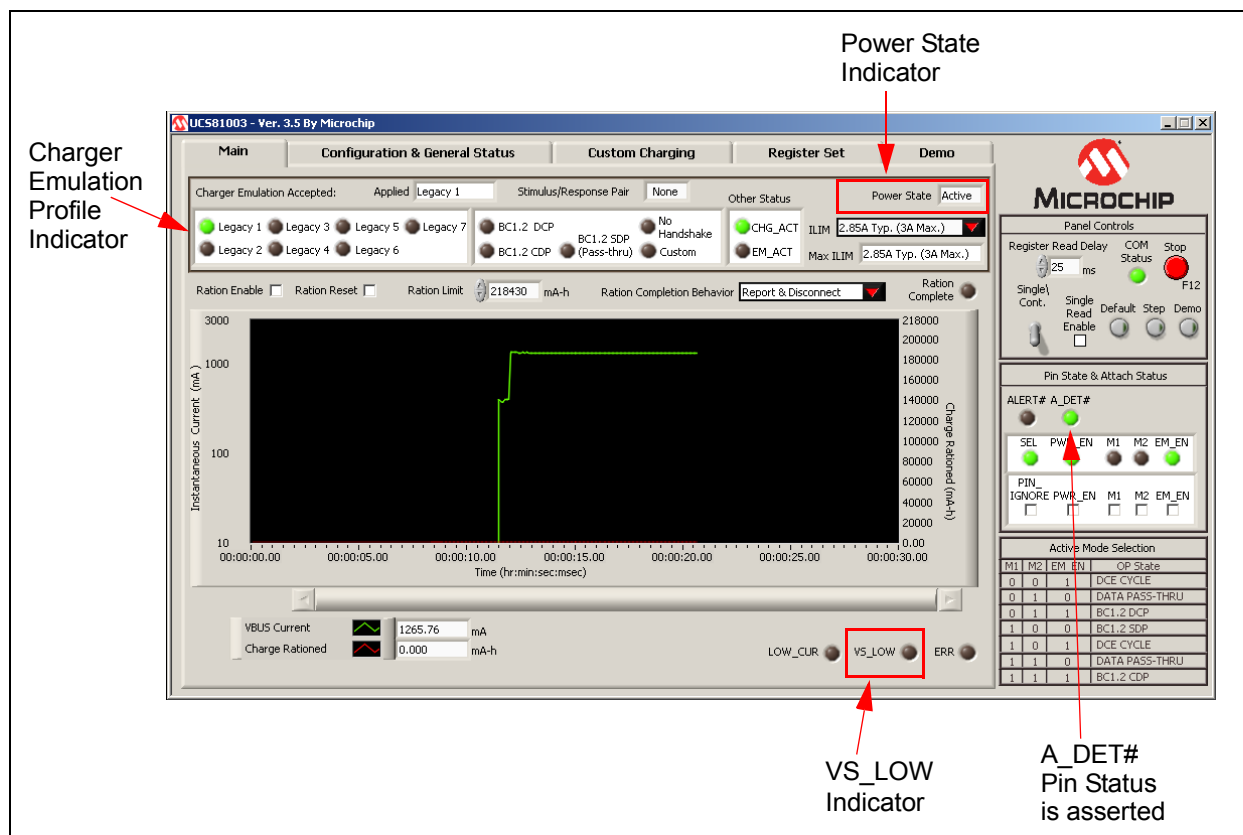

FIGURE 4-7: Main Tab - Charging Started.
3. The UCS81003 should detect an attachment, switch to the Active Power state, apply an emulation profile and deliver a charge. Figure 4-7 shows the interface after charging has started.